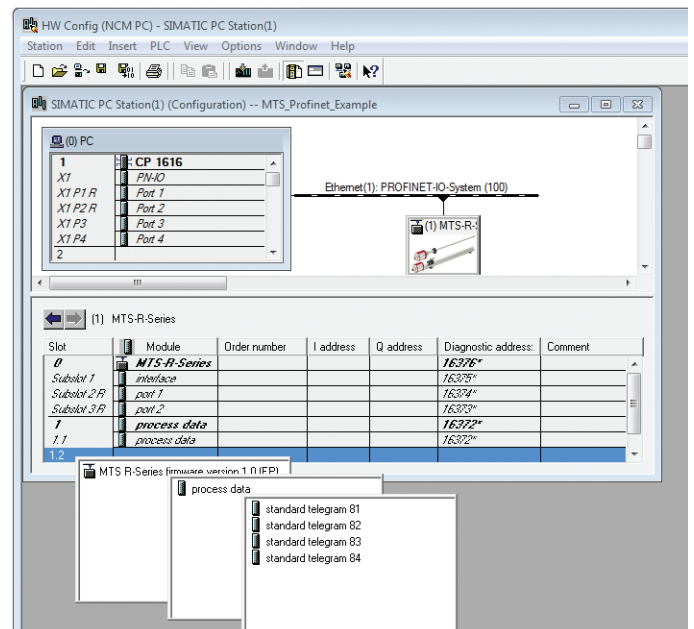

Fig. 49: Select standard telegram (source: Siemens)
5. Select a standard telegram for output of the sensor position (Fig. 49).